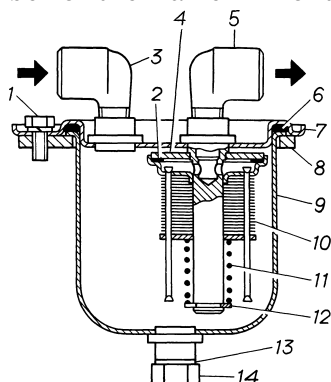

Fig. 13.1. **Coarse fuel filter:**
**Coarse fuel filter** (fig 13.1) is installed on the left side member of the frame in front of the fuel tank.
**Coarse fuel filter care** includes draining of sediment in regular intervals through drain plug 14 (fig. 13.1) and also washing with clear gasoline and blowing through with compressed air filter body 9, filtering element 10 and filter parts.